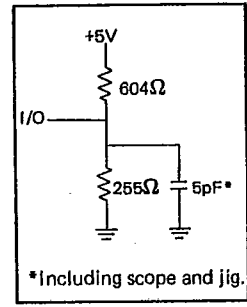

Figure 2.
- 2. The parameter is tested with the load in Figure 2. The transition is measured at $\pm 200\text{mV}$ from steady state voltages.